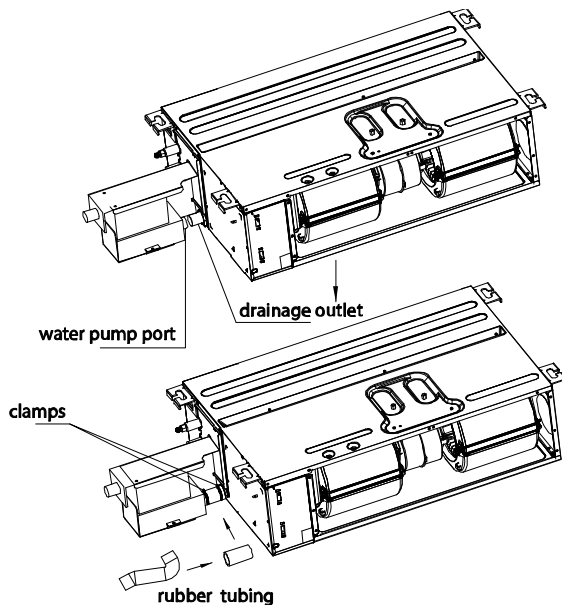

Fig. 41 —Condensate lift pump installation sizes 09K-12K
- Connect the drainage outlet and condensate lift pump using the rubber tubing and secure it with clamps on both ends (see Fig. 41).